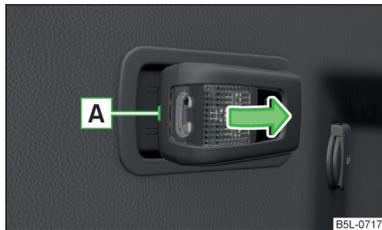

Fig. 186
- Take out the light in the direction of arrow » Fig. 186.